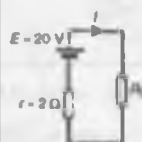

Figure 13.95
- 12 The maximum power transferred by the source in Fig. 13.95 is: